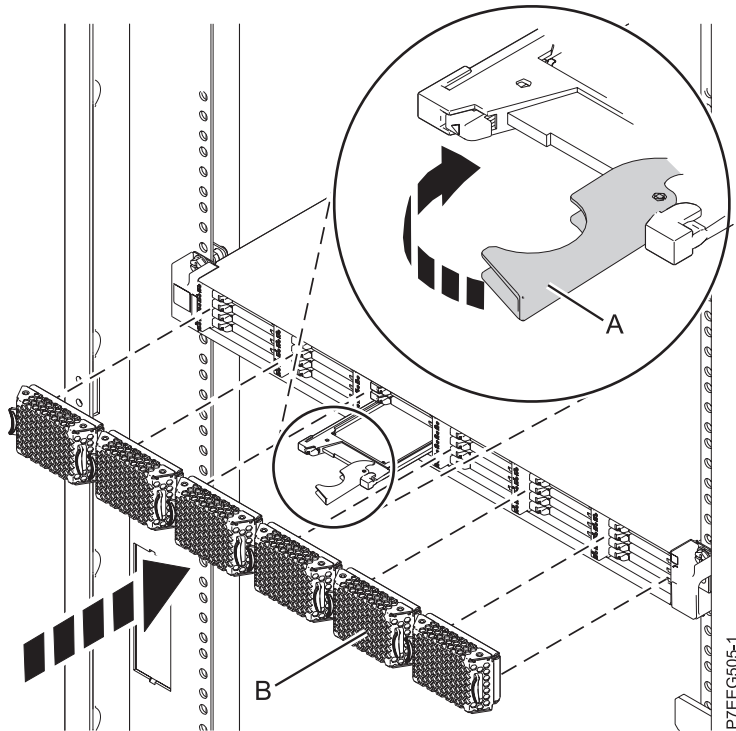

Figure 8. Installing a solid-state drive in the ED/R1 PCIe storage enclosure
1. With the handle in the unlocked position, align the solid-state drive with the guide rails in the enclosure. See Figure 8 on page 16.